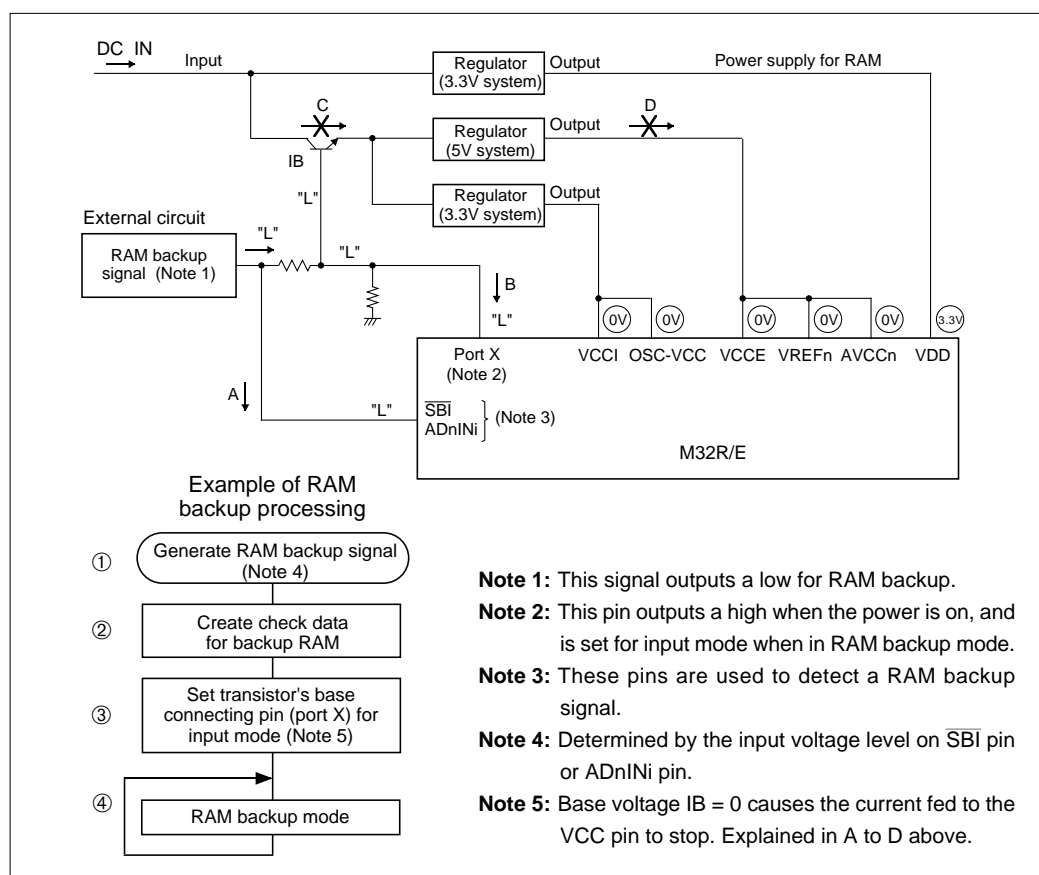
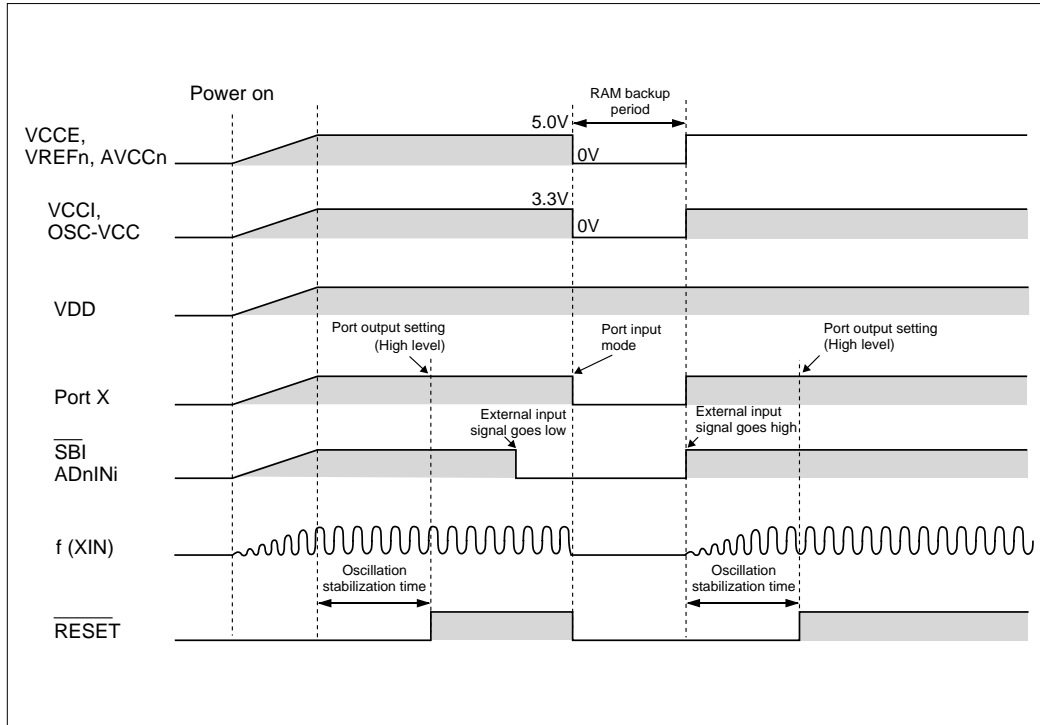

Figure 17.3.3 RAM Backup State for Low-Power Operation
Figure 17.3.4 Example of RAM Backup Sequence for Low-Power Operation
Figure 17.3.3 shows the RAM backup state of the M32R/E. Figure 17.3.4 shows a RAM backup sequence. When the external circuit outputs a low, input on the $\overline{\text{SBI}}$ pin or ADnINi pin goes low. A low on these input pins generates a RAM backup signal (A and ① in Figure 17.3.3). To enable RAM backup mode, make the following settings.
- (1) Create check data to verify after returning from RAM backup to normal mode whether the RAM data has been retained normally (② in Figure 17.3.3).
- (2) To materialize low-power operation, set all programmable input/output pins except port X for input mode (or for output mode, with pins outputting a low) (③ in Figure 17.3.3).
- (3) Set port X for input mode (B and ④ in Figure 17.3.3). This causes the transistor's base voltage, I_B , to go low, so that no current flows from the power supply to the VCC pin via the transistor (C in Figure 17.3.3). Consequently, the power to the VCC pin is shut off (D in Figure 17.3.3).